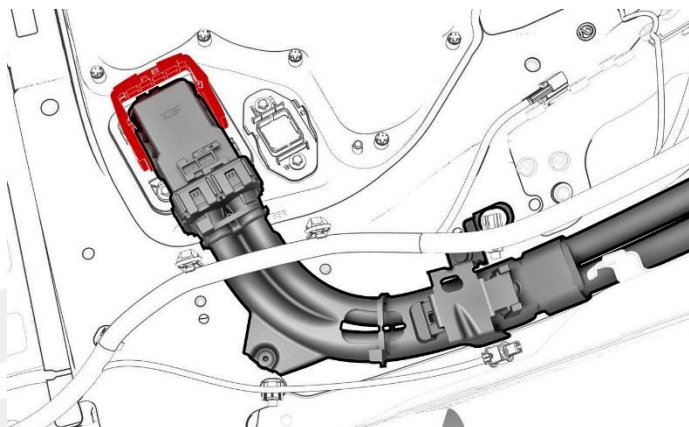

Figure 5
11. Raise the latch handle to disconnect the charge port to HV harness from the DC input assembly, and then disconnect the charge port harness from the penthouse (Figure 5).